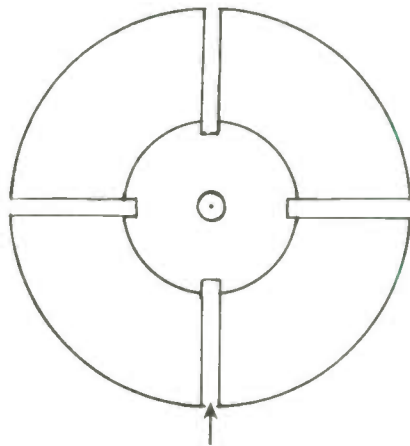

FIGURE 1: Cut slots approximately 1/8" wide.
*The idea of using tie-wraps is a good one. To implement it on my coil forms, cut equally spaced radial slots as shown on Fig. 1.*